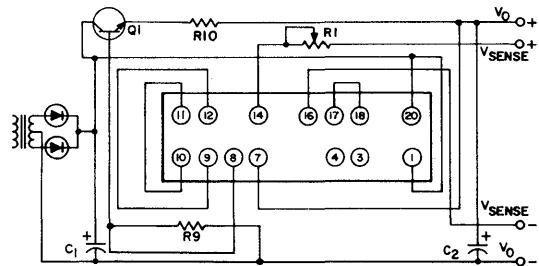

Fig. 33 Power hybrid voltage regulator used with parallel pass transistor for higher output current
- 9. Nominal value of the current sharing resistor R10 for Fig. 33 is determined from table below: